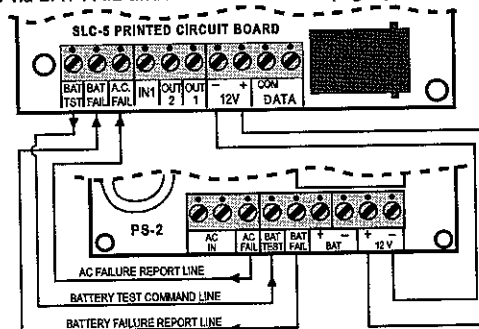

Figure 8 - Power Supply Status Data Flow
The SLC-5 can draw operating power from a distant source via the SpiderBus. It can also operate with the PS-2 - a companion power supply, switching regulator type. The PS-2 powers the SLC-5 and the various remote devices connected to the bus. It also charges the backup battery and provides power supply status information to the SLC-5 via BAT FAIL and AC FAIL terminals (Fig. 8).
- Low Battery:** The SLC-5 sends, at 90 second intervals, a battery test command to the PS-2 via the BAT TST terminal, to check the backup battery under load and report the results. The BAT FAIL output of the power supply is normally LOW, but changes to HIGH if the battery fails this test. If the BAT FAIL terminals are connected as shown in Figure 8, a change from LOW to HIGH will be reported to the computer. As a result, a "LOW BATTERY" message will appear on the computer monitor, together with identification of the SLC-5 installation site.
- AC Line Failure:** The AC FAIL open-collector output of the PS-2 is kept LOW as long as AC power is supplied. Upon an AC failure, this AC FAIL output changes from LOW to HIGH. If the AC FAIL terminals are connected as shown in Figure 8, a change from LOW to HIGH that persists for 60 seconds will be reported to the computer. As a result, an "AC FAILURE" message will appear on the computer monitor, together with identification of the SLC-5 installation site.
- A. Interconnect the identically marked terminals of the SLC-5 and PS-2, as shown in Figure 8 (BAT FAIL to BAT FAIL and so on). When connecting the 12 V terminals, be careful not to reverse the (+) and (-) wires.